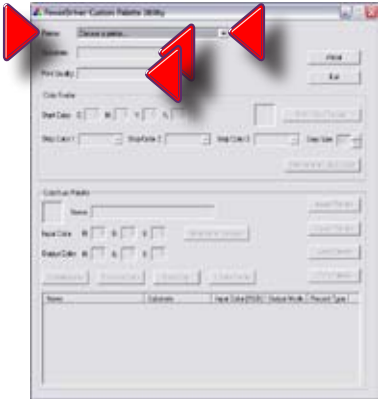

Figure 1
- At the bottom of the window, click the **Custom Palette Button**; this will open the **Custom Palette Utility** window. (**Figure 1**)